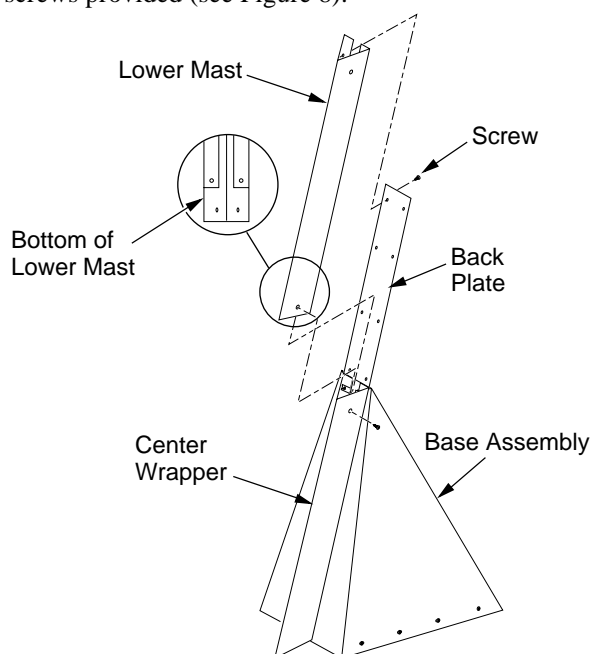

Figure 6 - Attaching Lower Mast
6. Place lower mast inside base assembly (see Figure 6). Bottom of lower mast has cut out section that slips into base assembly. Using 10 screws provided, attach to base assembly and back plate.